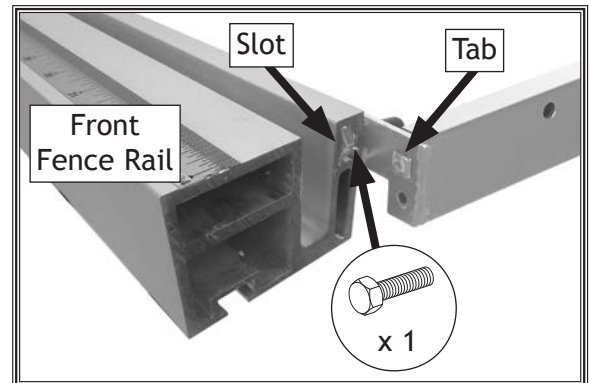

Figure 31. Attaching front end of fence rail brace.
- 29. Insert (1) M8-1.25 x 16 hex bolt into front end of fence rail brace, then slide hex head and tab of brace into slot in front fence rail (see Figure 31). Tighten cap screw and hex nut on rear end of fence rail brace.